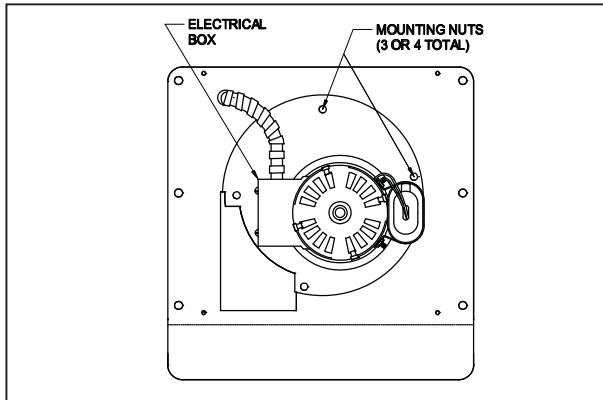

Figure 16
2. Open the electrical box on the motor and disconnect the conduit and wires from the motor. (See Figure 16)